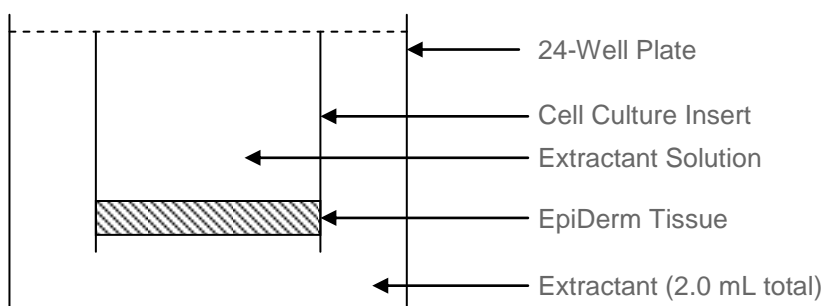

Figure 3: Extraction Configuration
b) **Add extractant:** Immerse the cell culture inserts with 2.0 mL of the extractant solution per well to completely cover the EpiDerm sample. See **Figure 3**. Cover the extraction plate to reduce evaporation of extractant. *Note: If the test article is colored and does not completely rinse off, pipet 1.0 mL of extractant into each well so that the MTT is extracted through the bottom of the tissue culture insert.* After extraction is complete, remove the insert and add an additional 1.0 mL of extractant to bring the total volume to 2.0 mL.
**Extraction conditions:** Place the extraction plate with its top in place into a sealable plastic bag (e.g. Ziplock) to minimize extractant evaporation. Allow the extraction to proceed for 2 hours at room temperature (RT) on an orbital shaker or overnight (without shaking) at RT in the dark. Protect plate from light while shaking using aluminum foil. Shaking should be vigorous enough for some mixing within the wells, but not too vigorous such that liquid will leave the wells. *Note: We recommend allowing the extractions to proceed until all samples have been extracted for 2 hours (with shaking) or overnight (without shaking) so that all MTT readings can be made at once.* As long as evaporation of solvent is prevented, extraction times beyond these times will not affect MTT readings. *Note: If you are using your own reagents, the extractant should **not** contain acid. (e.g. hydrochloric acid). We recommend using only MatTek provided products (e.g. MTT-100).*